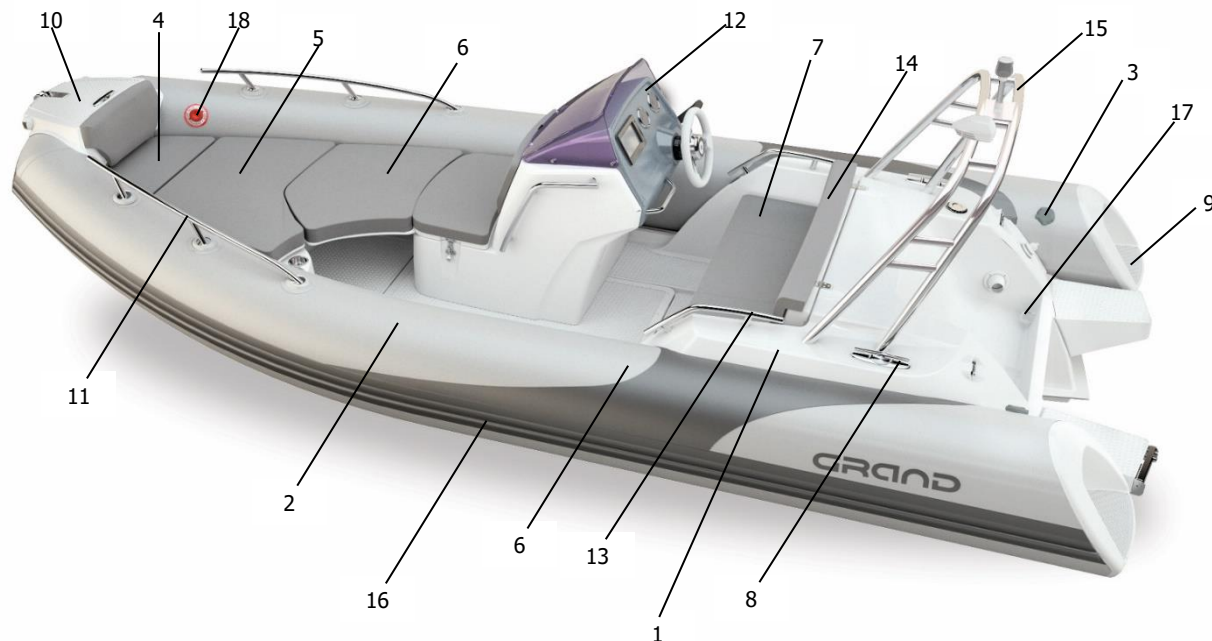

Fig. 48. General arrangement of a boat.
***General arrangement of a boat*** (see fig. 48 on the previous page):